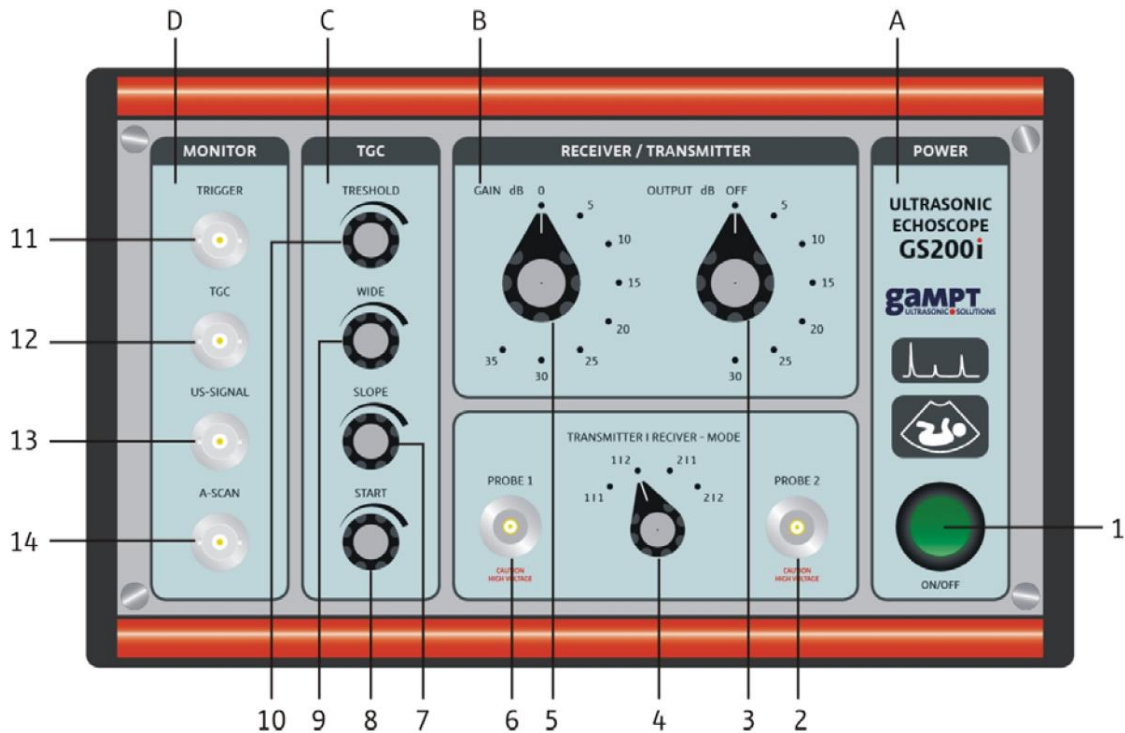
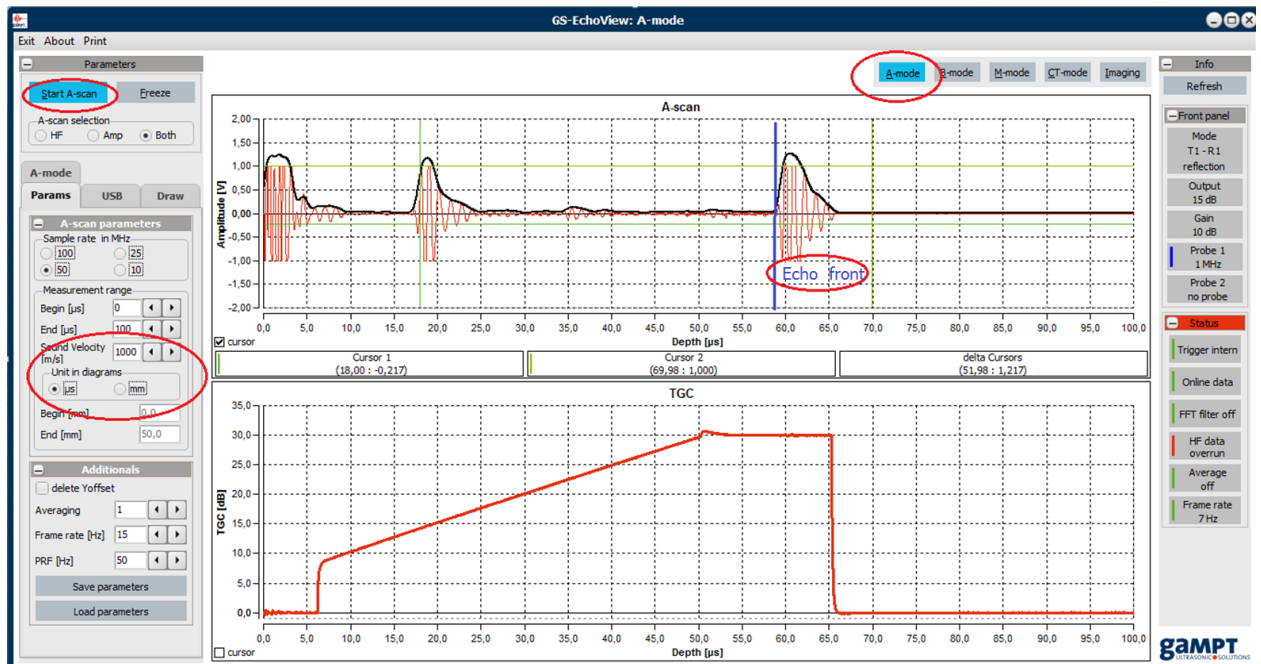

Figure 3. Front panel of the echoscope GS200.
Figure 4. Main window of the GS-EchoView program.
- Connect the 1-MHz sensor (blue) to the socket “Probe1” (see figure 3). Set the transmitter/receiver mode to “1 | 1” (reflection).
- In the window “A-mode” find the tab “params” and set the parameters “begin” and “end” to 0 and 100, respectively (see figure 4).
- Get the TGC signal with the shape as that shown in figures 4–5 (tune the time gain) using the handwheels 7–10 of the block C (figure 3). Initial settings of the switchers 3 and 5 (figure 3) of the block B should be
- Using the mouse cursor, find the time when the echo returns from the rear side of the **brick**; measure it with respect to the front side (buildup) of the echo. Note that this echo signal does not disappear when you move the probe (see figure 4)!